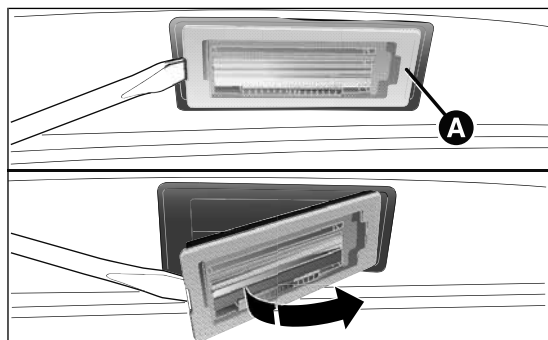

fig. 132
- ☐ refit the lens A fig. 132.